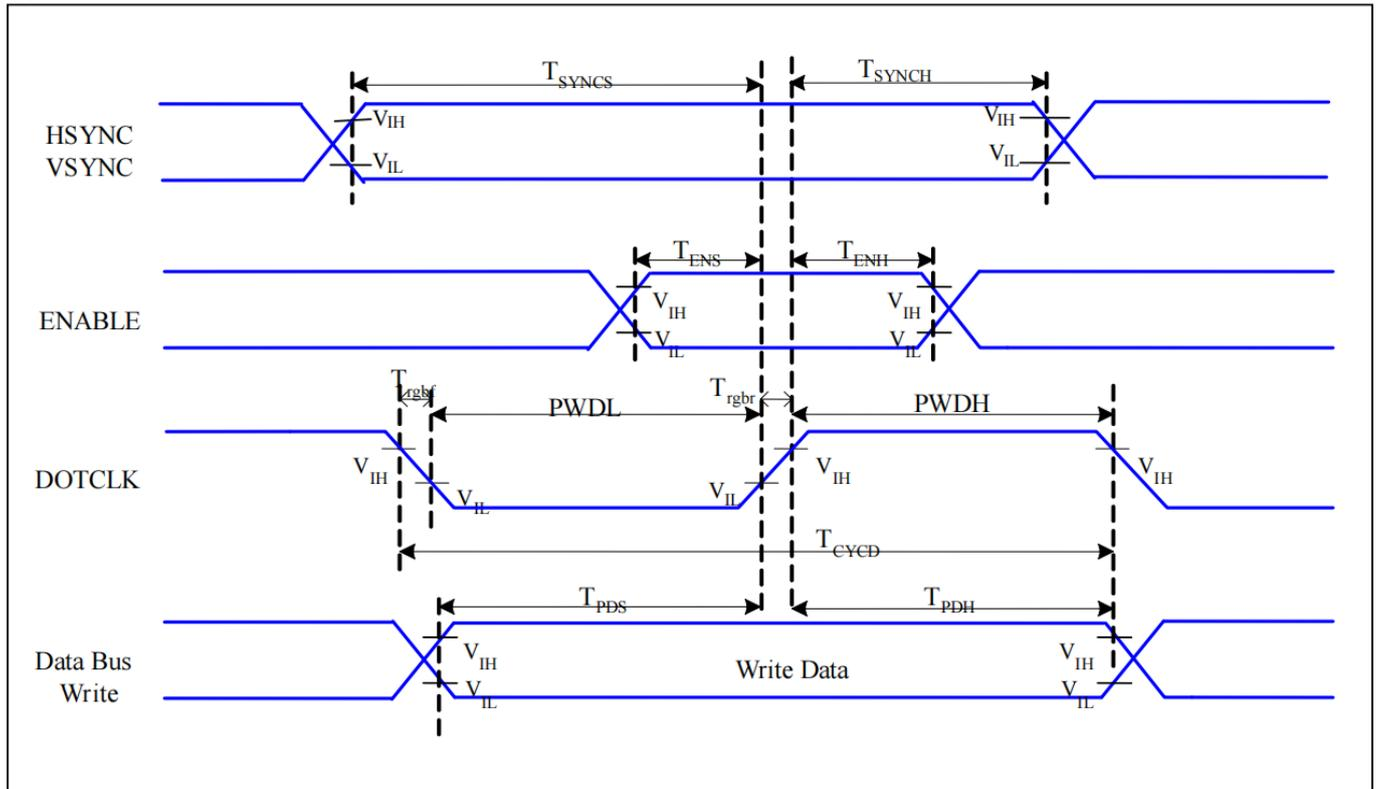

Figure 3.RGB Interface Timing Characteristics
6. The electro-optical response time measurements shall be made as FIGURE 3 shown in Appendix by switching the “data” input signal ON and OFF. The times needed for the luminance to change from 10% to 90% is T_r , and 90% to 10% is T_d